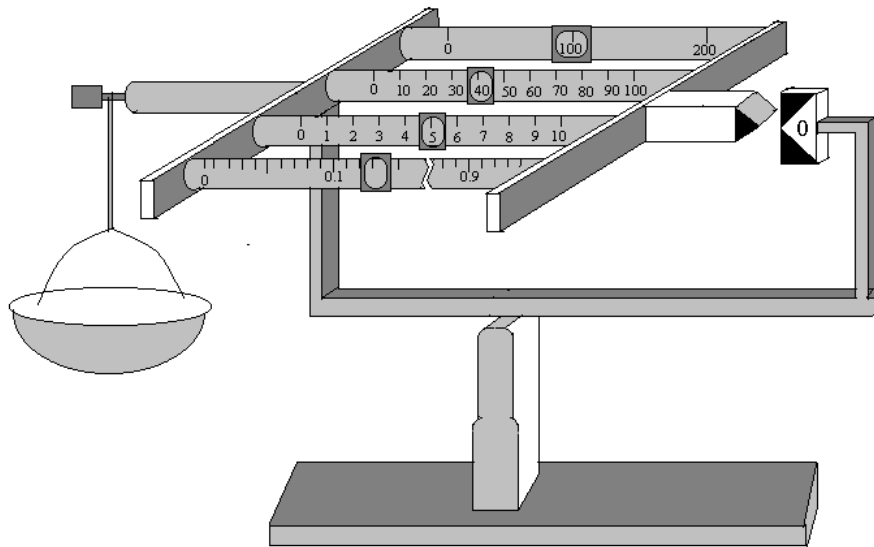

Figure D. 9: Balance Scale.
- 7) **Balance Scale:** Figure D.9 is a picture for a balance scale, notice from the picture that the balance has four scales. Each scale has a movable metallic piece on it which you can move along the rod to the right. We note here that the first scale has only three positions; 0, 100 and 200 grams. You should not place the movable piece in a position between 0 gram and 100 gram. The second scale has 11 positions 0, 10, 20,..., 100 gram. You should only place the movable metallic piece in one of these readings from 0 to 100 gram. The third scale has also 11 readings from 0 to 10 grams. The fourth scale has readings from 0 to 1 gram, notice also that on the fourth scale each 0.1 division is divided into 10 divisions. You can read the scale balance shown below: